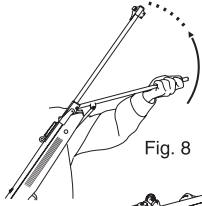

Fig. 8
- Bring under lever cocking arm to its fully closed position. (Fig. 8)